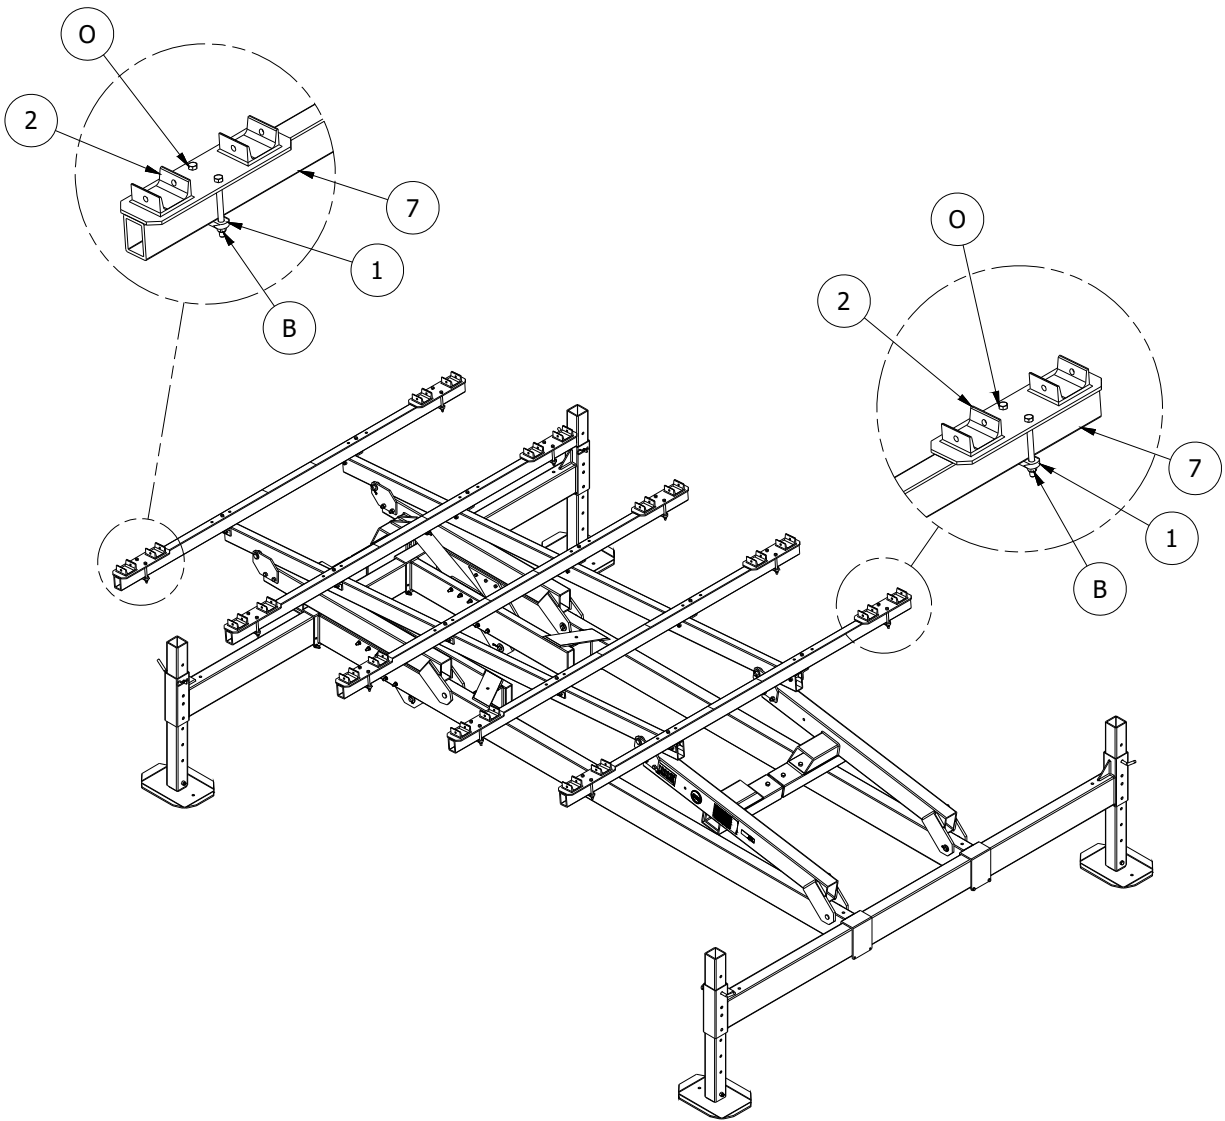

Figure 2-5.
1. Refer to Figure 2-5. Position one P&T Toon A/V cradle bracket (2), near end of a cross support tube.
2. Attach bracket using two hex screws (F), one two hole mounting plate (1), and two aluminum locknuts (B). **DO NOT TIGHTEN AT THIS TIME.**